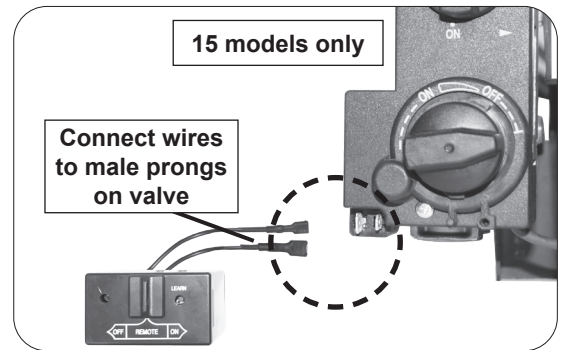

Fig. 17-1 Connect remote receiver to valve (if applicable)
2. Locate the wires coming off of the remote receiver, and connect them to the two male prongs found on the valve (see Fig. 17-1).